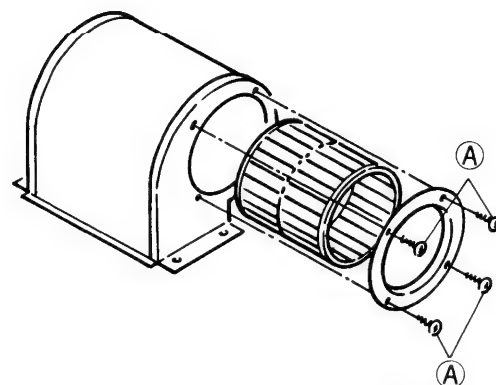

Fig.9
- ⑥ When the four screws (A) around the nozzle circumference are removed as shown in the figure, the fan can be removed. Fig.9